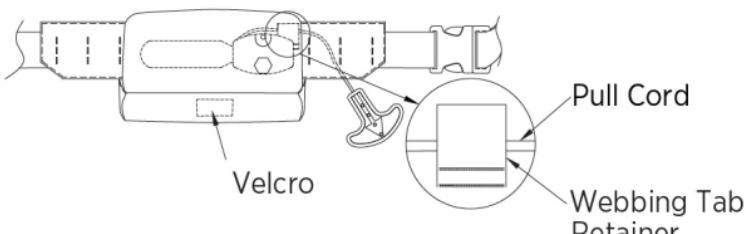

FIGURE 27
8. Fold the foam panel and waist belt towards you to cover the bladder. The inflator cord should be routed through the webbing tab to prevent the pull-tab from dangling (see Fig. 27). Be careful not to pull the lever during this step or your device will inflate.